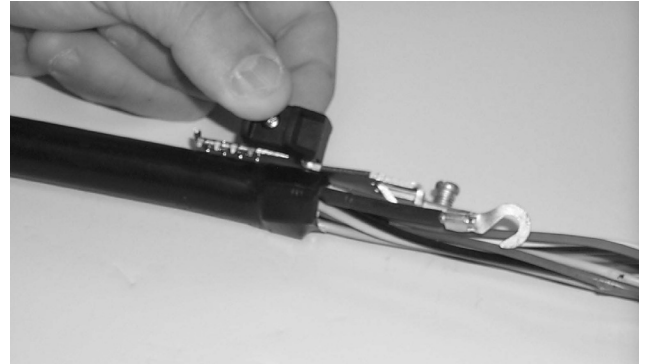

Figure 2
4. Install the strength member attachment bracket into the smaller cable attachment part by pushing the metal tab into the slot. (Figure 2)